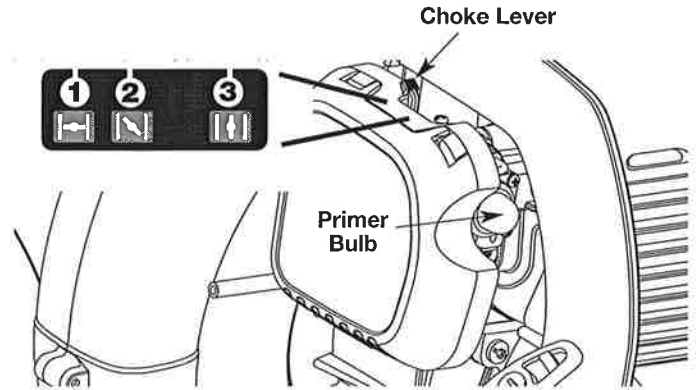
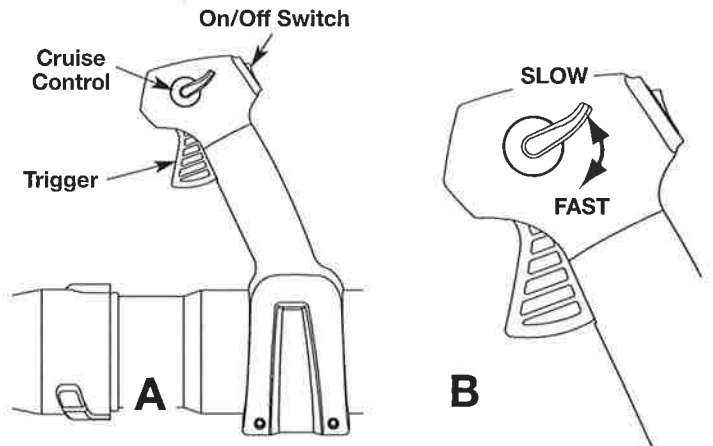
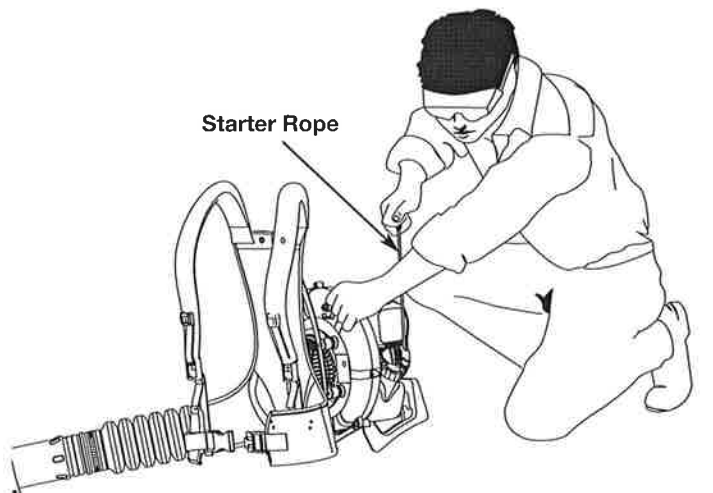

Fig. 14
Fig. 15
Fig. 16
**WARNING:** Avoid accidental starting. Make sure you are in the starting position when pulling the starter rope (Fig. 16). To avoid serious injury, the operator and unit must be in a stable position while starting. To avoid serious personal injury, make sure that the blower tube is locked in place or firmly installed.
**NOTE:** There is no need to turn the unit on. The On/Off Control is in the ON (I) position at all times.
3. Fully press and release the primer bulb 10 times, slowly. Some amount of fuel should be visible in the primer bulb (Fig. 14). If fuel cannot be seen in the bulb, press and release the bulb until fuel is visible.
4. Move the choke lever to **Position 1** (Fig. 14).
**NOTE:** The unit should be started in idle. Do not squeeze the trigger until step 8 (Fig. 15, A).
5. **Do not squeeze the trigger.** Crouch in the starting position (Fig. 16). Pull the starter rope 5 times in a controlled motion.
6. Move the choke lever to **Position 2** (Fig. 14).
8. Squeeze and hold the trigger, or press down the cruise control (Fig. 15, A), and allow the engine to warm up for 30 to 60 seconds.
9. **Continue to squeeze the trigger.** Move the choke lever to **Position 3** (Fig. 14) and continue warming the engine for an additional 60 seconds. During this time the unit may be used.
2. Press and hold the On/Off switch in the OFF (O) position until the unit comes to a complete stop (Fig. 15, A).
1. Once the engine has started and warmed up, squeeze the trigger to accelerate the unit as needed (Fig. 15, A).
2. For longer periods of operation and to eliminate possible finger fatigue, move the cruise control toward the FAST position to incrementally increase or maintain the unit's engine speed (Fig. 15, B). When the cruise control is pressed, the trigger will recede into the handle.
3. To decrease engine speed, move the cruise control to the SLOW position and the trigger will return to idle position (Fig. 15, B).
3. Fully press and release the primer bulb **10** times, slowly. Some amount of fuel should be visible in the primer bulb (Fig. 14). If fuel cannot be seen in the bulb, press and release the bulb until fuel is visible.
**NOTE:** The unit should be started in idle. Do not squeeze the trigger until step 10 (Fig. 15, A).
5. Crouch in the starting position (Fig. 16). Insert the electric starter or Power Start Bit™ into the back of the unit (Fig. 32). Refer to the Operation section of the Electric Starter or Power Start Bit™ operator's manual.
6. **Do not squeeze the trigger.** Press and hold the electric starter or drill's ON (I) button for 2 seconds.
7. Move the choke lever to **Position 2** (Fig. 14).
8. **Do not squeeze the trigger.** Press and hold the electric starter or drill's ON (I) button for 2-second intervals until the unit starts.
10. Squeeze and hold the trigger, or press down the cruise control (Fig. 15, A), and allow the engine to warm up for 30 to 60 seconds.
11. **Continue to squeeze the trigger.** Move the choke lever to **Position 3** (Fig. 14) and continue warming the engine for an additional 60 seconds. During this time the unit may be used.
**IF...** the engine fails to start after a few attempts, place the choke lever in **Position 3** and squeeze the throttle control. Press and hold the electric starter or drill ON (I) button for 2-second intervals until the unit starts.
- Use the cruise control (Fig. 15) to keep the trigger depressed while operating to make continuous operation easier.